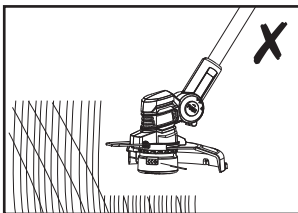
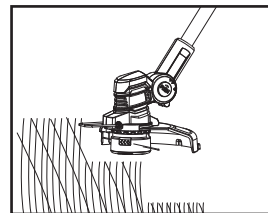

Fig. 17
Fig. 18
7. Ensure the cutting device remains clean and free from off-cuts that may cause it to jam. Check regularly. Release the on/off switch (2) and remove the battery pack (16) before checking.
8. Trim longer grass in stages; do not cut long grass in one cut (Fig. 17). For the best results, cut longer grass in steps (Fig. 18).